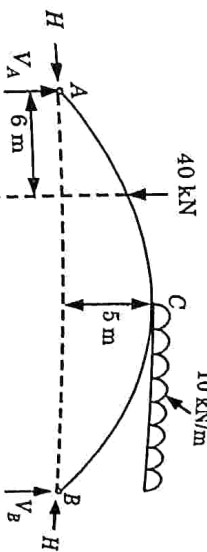

Fig. 40.
1. The arch is shown in Fig. 40. Taking moment about B, we get